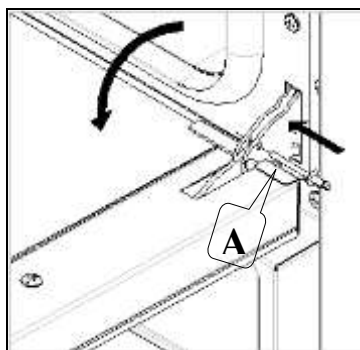

Fig. 5
- insert the equipped plugs in the "A" holes on the hinges (Fig. 5);